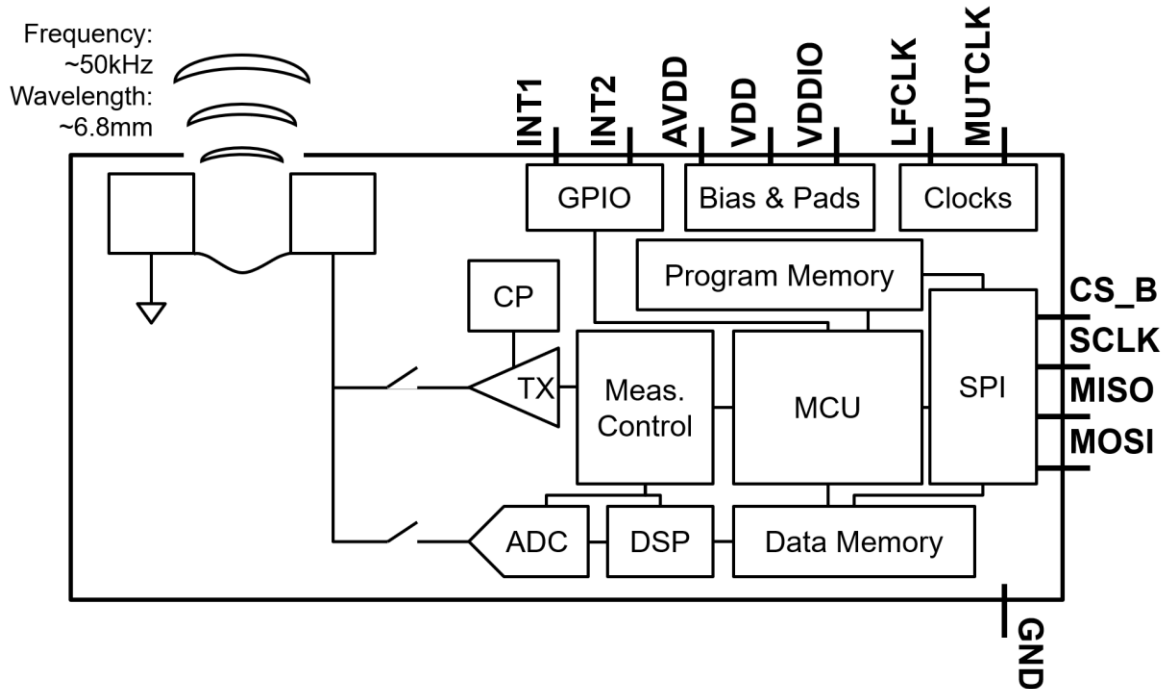

Figure 4. Simplified Block Diagram
The ICU-30201 is an autonomous, digital output ultrasonic transceiver. The Simplified Block Diagram in Figure 4 shows the main components at the package-level. The package includes a piezoelectric micro-machined ultrasonic transducer (PMUT) and system-on-chip (SoC). The SoC controls the PMUT to produce pulses of ultrasound at an operational frequency  $f_{op}$  that reflect off targets in the sensor’s Field of View (FoV). The reflections are received by the same PMUT after a short time delay, amplified by sensitive electronics, digitized, and stored as I/Q baseband data in the on-chip data memory. Software defined algorithms can process the I/Q data to detect targets using the on-chip microcontroller (MCU), and these algorithms can be tuned to detect stationary or moving targets preferentially. I/Q data can also be transferred to a larger host or application processor (AP) for further processing.